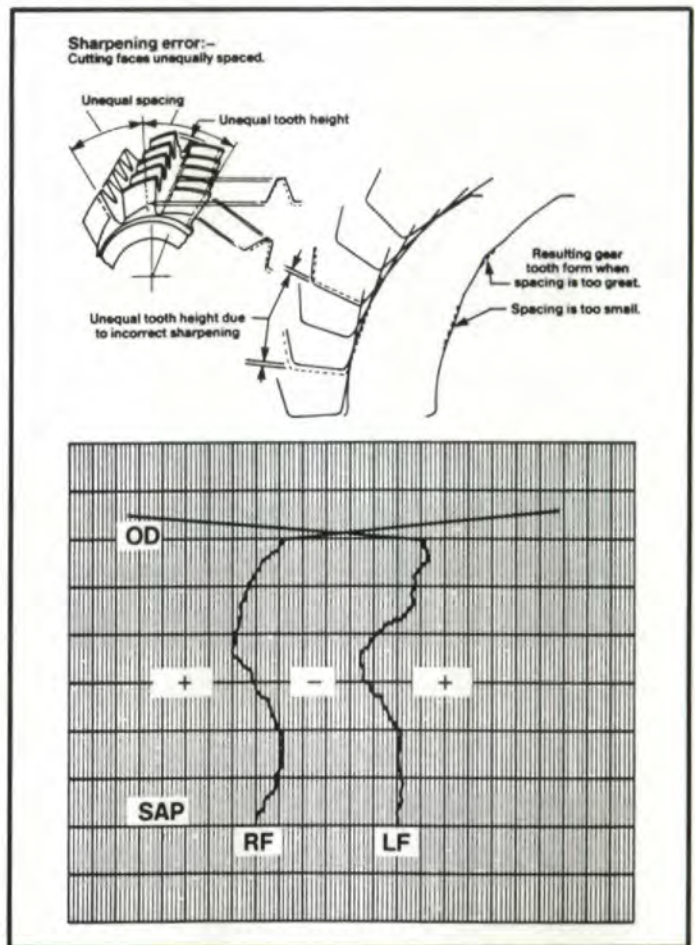

Fig. 17—Effect of accumulated flute spacing error on profile.
4. The hob cutting faces sharpened with unequal spacing (Fig. 17).
Fig. 17 illustrates the condition of unequally sharpened hob flutes, resulting in unequal spacing of the cutting edge positions relative to the thread helix. Due to the flank or cam relief on the hobs, unequally spaced flutes will cut either high or low from the nominal enveloping helix, producing a "wandering" profile.